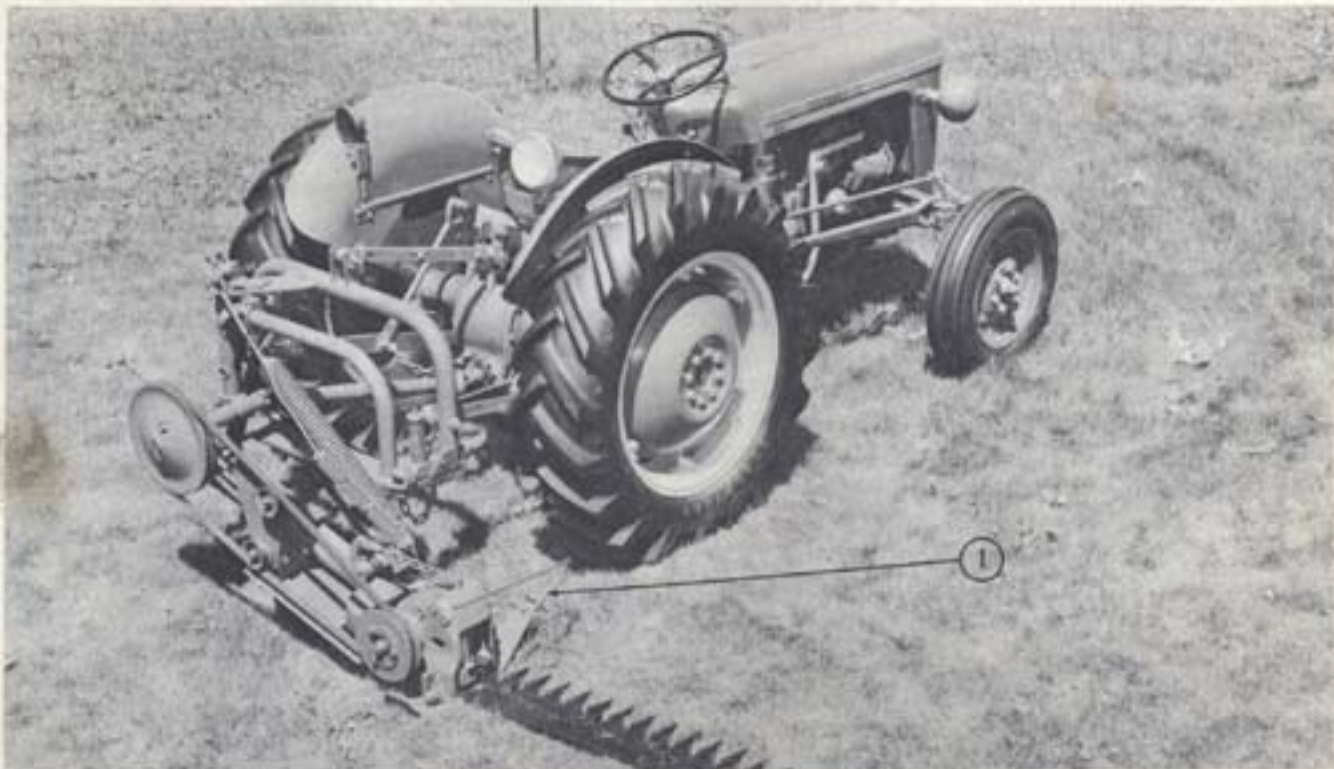

Fig. 62 Complete Assembly
18. Install the grass rod (No. 1, Fig 62) using the carriage head bolt, nut and lock washer provided. Insert the bolt from beneath the shoe with the grass rod between the bolt head and the shoe.
Fig. 62 shows the belt installed and the fully assembled mower attached to a TO 35 Tractor. Before the mower is operated in the field the following pre-operative settings should be attended to: